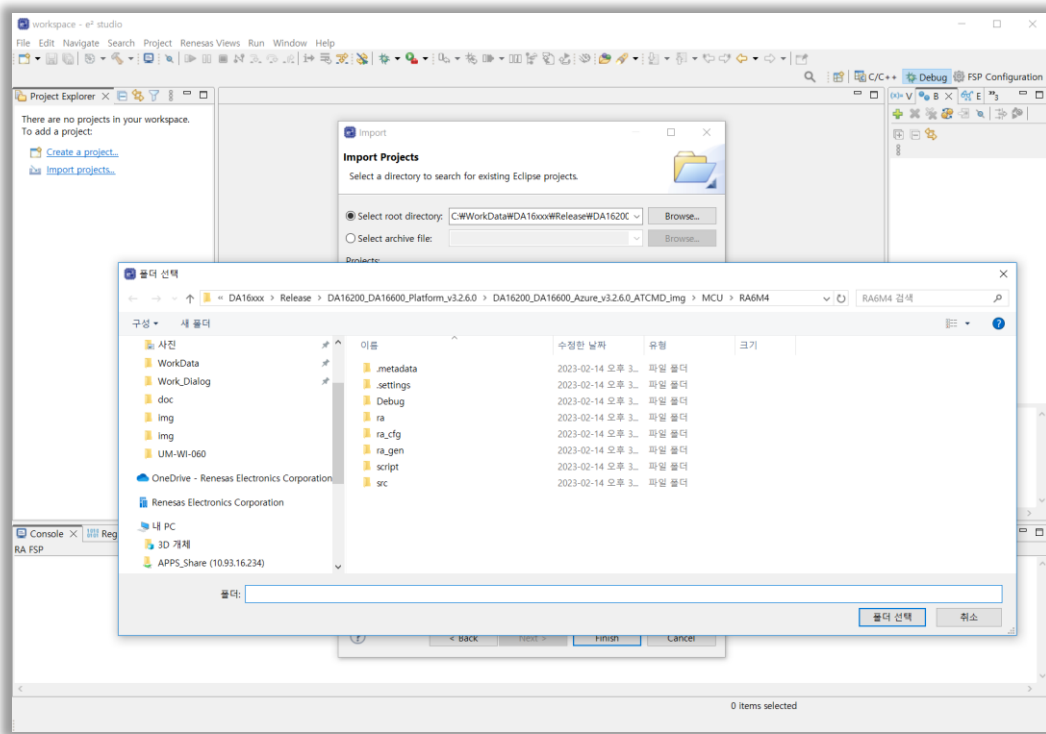

Figure 49: e2studio Project File
1. Import the project file at `\MCU\RA6M4\` (see Figure 49).